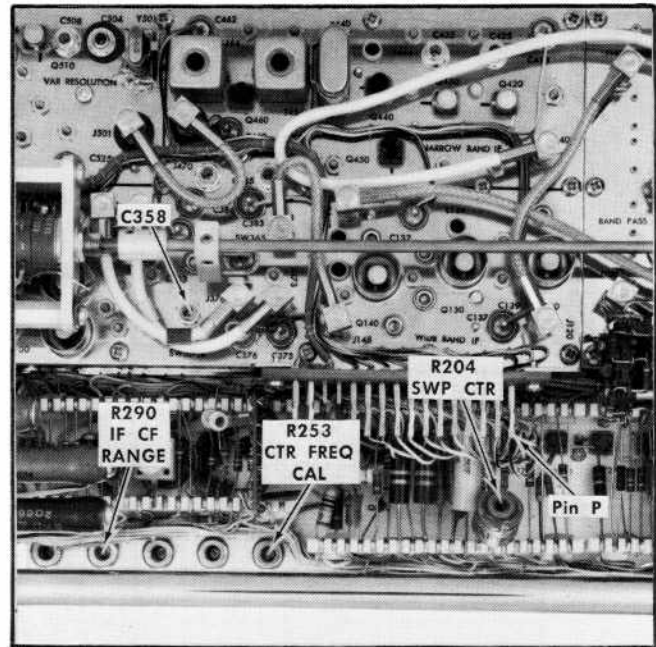

Fig. 5-2. Location of sweeper and discriminator adjustments.
j. Connect the probe of a DC coupled test oscilloscope to chassis ground on the Type 1L40. Establish 0 V reference level on the test oscilloscope, then connect the probe to pin P of the pin connector on the honeycomb assembly, see Fig. 5-2.
k. ADJUST—The IF CF Range R290 (see Fig. 5-2) for -0.75 ± 0.1 volt of trace deflection on the test oscilloscope.
o. ADJUST—the Center Freq Cal R253 (Fig. 5-2) for minimum IF signal shift as the DISPERSION selector is switched between the 10 MHz and .2 MHz positions. The DISPERSION RANGE switch must be in the MHz/CM position for this adjustment.
q. ADJUST—the Sweep Center R204 (Fig. 5-2) to position the 200 MHz signal to the graticule center line.
d. Adjust the DISP CAL R208, for a 1 marker/centimeter over the center 8 graticule divisions, then adjust C358 (Fig. 5-2) for optimum display linearity.